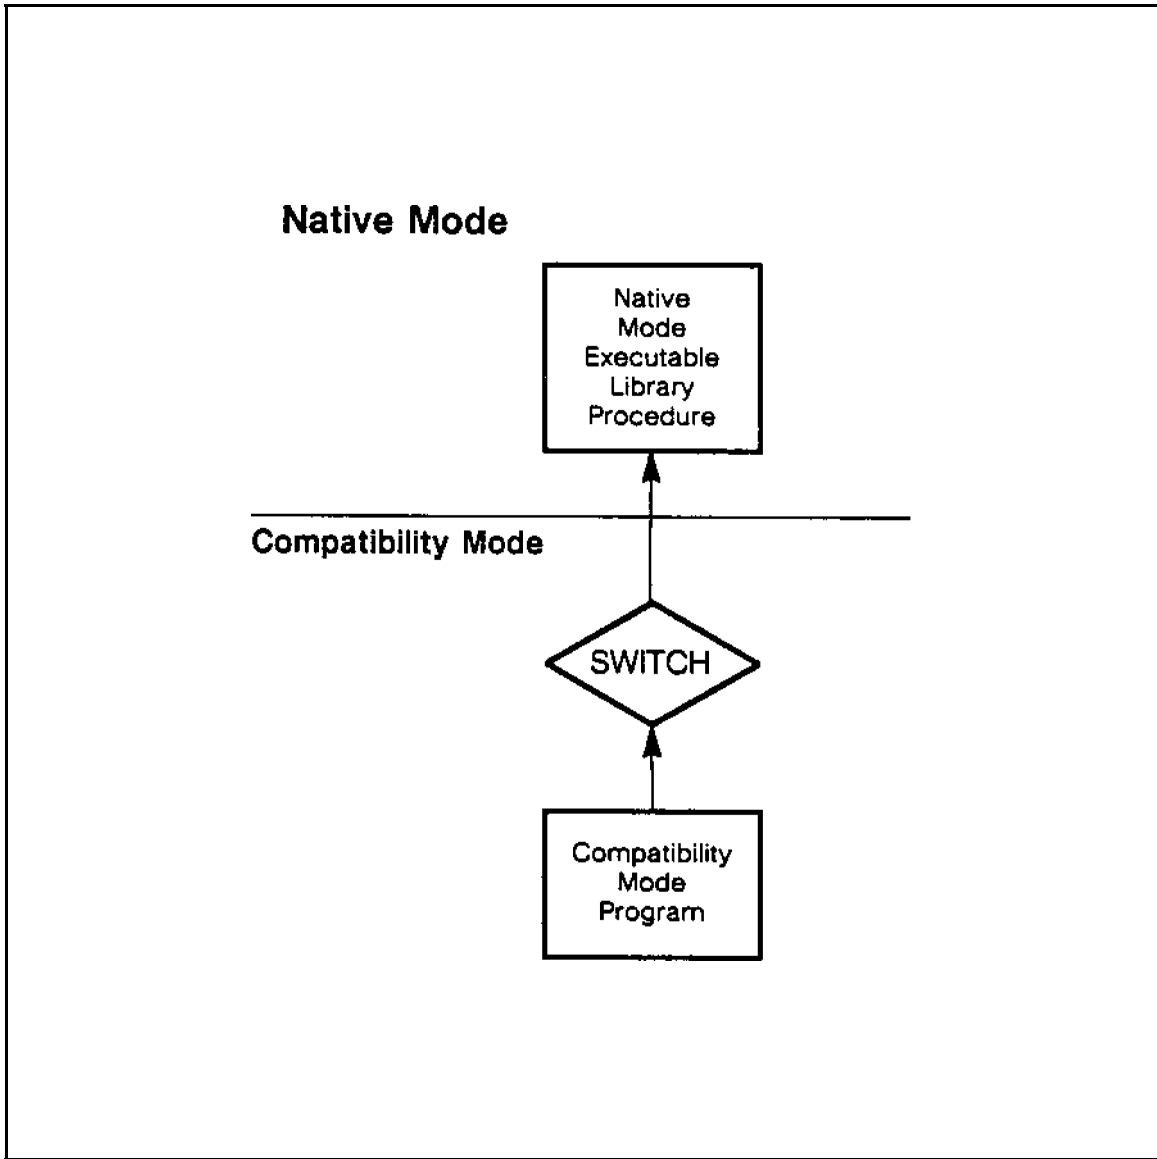

Figure 1-6. CM—> NM Mixed-mode Execution Model
3. When running NM code you can call procedures located in a CM SL, or when running CM code you can call procedures located in an NM Executable Library. These situations involve mixed-mode procedure calls, and Switch provides such capability. Figures 1-6 and 1-7 symbolize this mixed-mode calling feature.